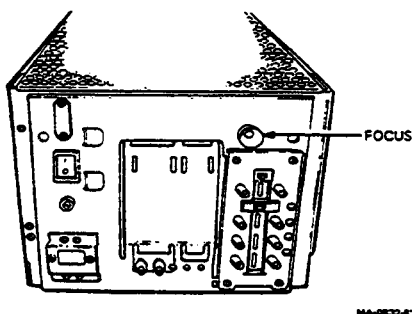

Figure 4-14 Focus Adjustment
4. Turn the FOCUS control (Figure 4-14) until the E's are clear over the complete screen.